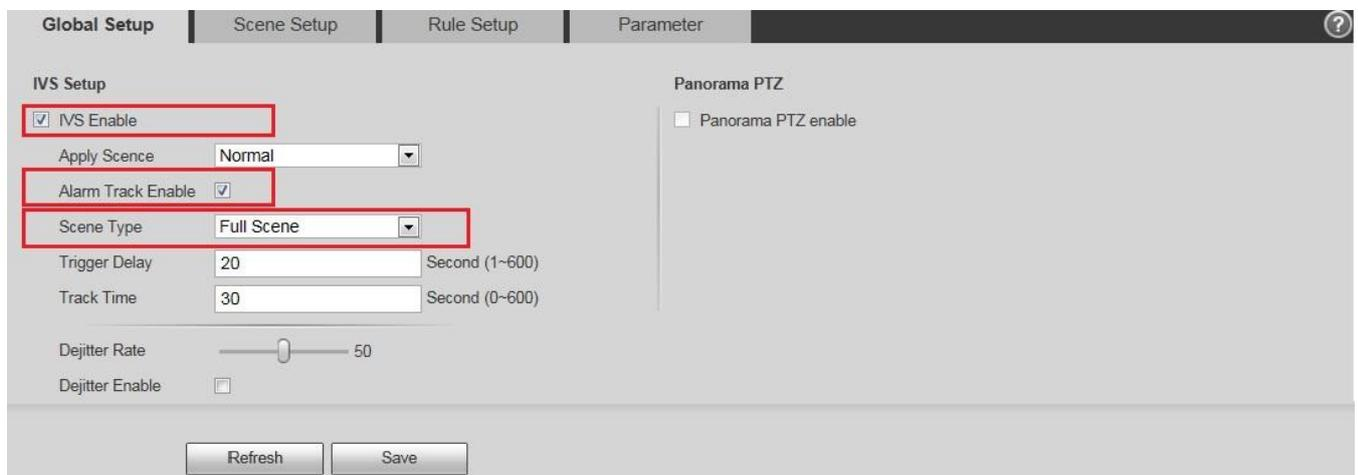

Figure 3-8
- 3) Check the corresponding box to enable IVS track function and alarm track function. Select panorama-scene from the track type dropdown list. Set trigger delay time as 1 second and track time as 30 seconds. See Figure 3-8.